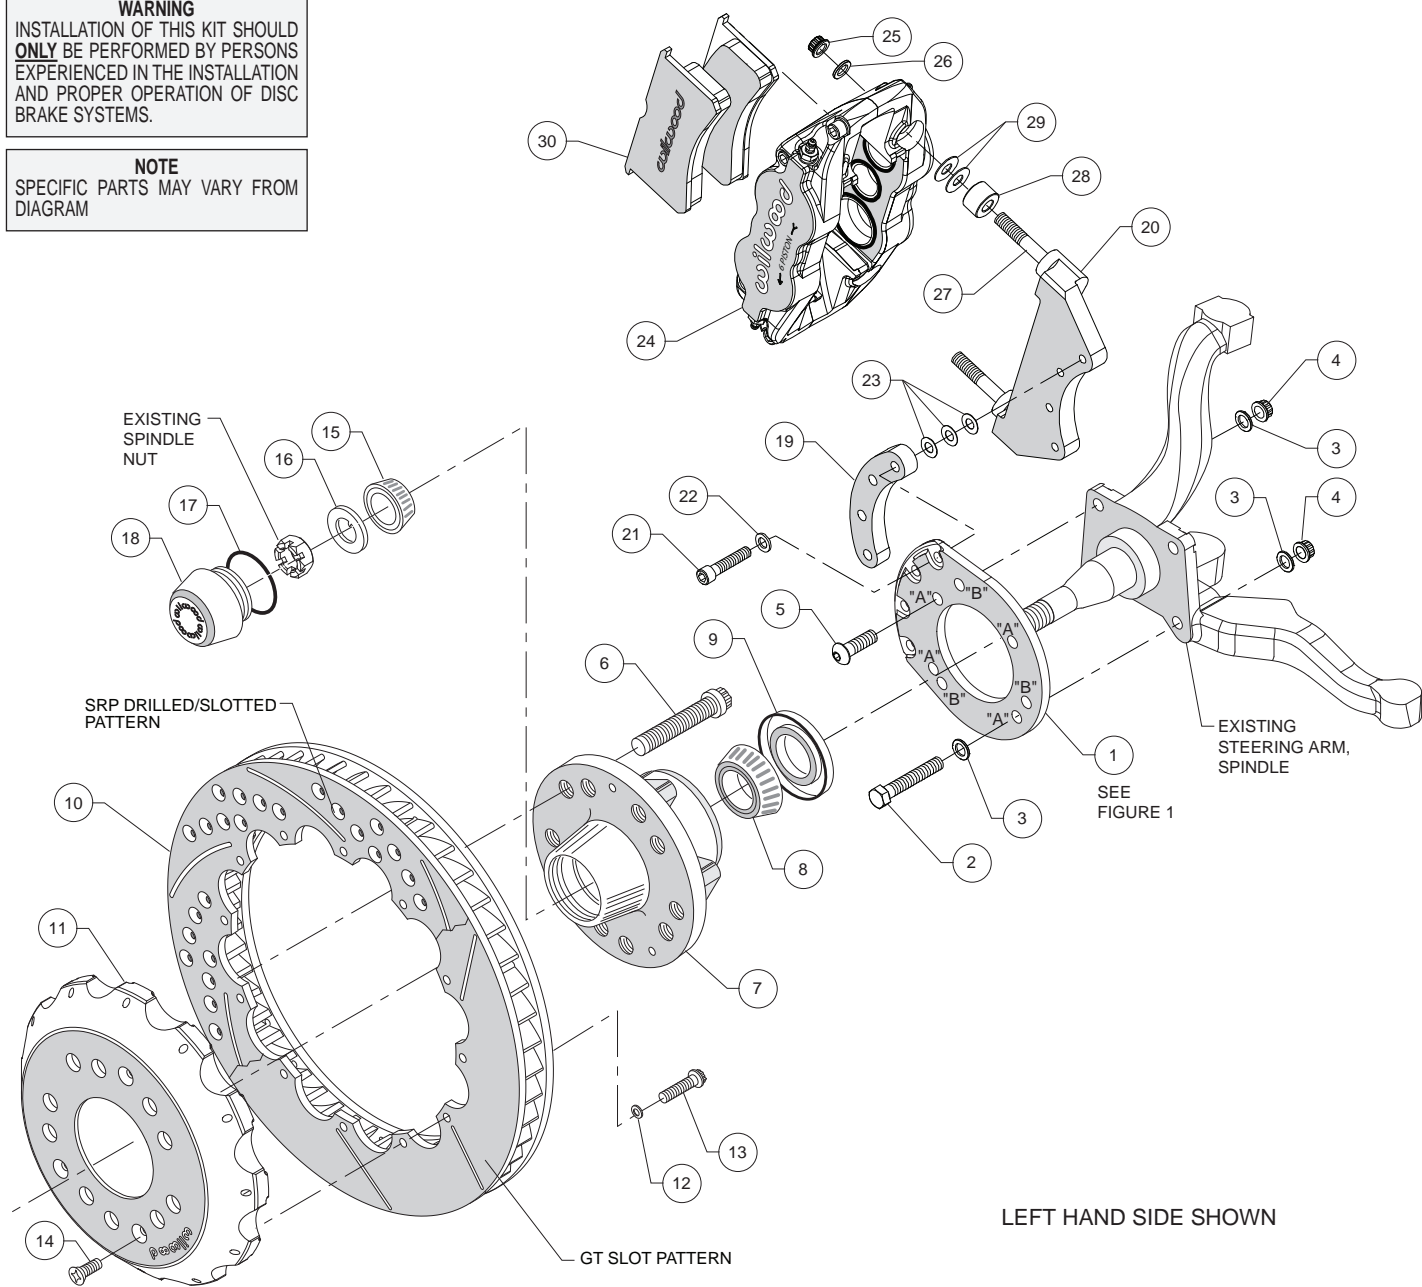

Figure 2. Typical Installation Configuration
Assembly Instructions (numbers in parenthesis refer to the parts list and Figure 2 on the preceding pages):
•Align bracket, using the four "A" holes, to the face of the spindle and attach using bolts (2 and 5), washers (3), and lock nuts (4), as shown in Figure 2 and Photo 1. Temporarily tighten the mounting bolts. **NOTE:** The bracket must fit squarely against the mounting points on the spindle. Inspect for interference from casting irregularities, machining ridges, burrs, etc. Torque lock nuts (4) to 25 ft-lb.
•Install wheel studs (6) into the hub (7), Photo 2. Torque to 77 ft-lb. **NOTE:** There are two five lug patterns in the hub (5 x 4.50 and 5 x 4.75). Ensure the correct hub stud pattern is being used to fit the wheel application.
•Pack the large inner bearing cone (8) with high temperature disc brake bearing grease (available from your local auto parts store) and install into the backside of the hub (7), Photo 3.
•Install the grease seal (9) by pressing into the backside of the hub (7), flush with the end of the hub, Photo 3.
•Pack the small outer bearing cone (15) with high temperature disc brake bearing grease and install into hub (7). Slide the hub assembly onto the spindle. Secure using spindle washer (16) and OEM spindle nut, Photo 4. Adjust bearings per OEM specifications. Install saved OEM nut lock (if any) and a new cotter pin (not included).
•Screw dust cap (18) into hub (7), Photo 5. Friction created by the o-ring (17) on the dust cap keeps it from unscrewing. **NOTE:** The O.D. of the existing OEM spindle washer may be larger than the I.D. of the dust cap not allowing it to seat against the hub face. Therefore, use the spindle washer (16) supplied with the kit instead of the OEM washer.
•Orient the rotor (10) and the hat (11) as shown in Figure 2 and Photo 6. Attach rotor to hat using bolts (13) and washers (12). Using an alternating sequence, apply red Loctite® 271 to the
- Slide the hat/rotor assembly (10 and 11) onto the hub (7) taking care to align the small countersunk holes in the hat with the small threaded holes in the hub (7). **NOTE:** The hat must fit flush against the hub face or excessive rotor run out may result. Install three flat head screws (14) through the small holes in the hat, Photo 5, and torque to 85 **in-lb**.
- Attach the caliper mounting bracket (20) to the spindle bracket (1) using bolts (21), washers (22), and spacer (19) as shown in Figure 2 and Photo 7. Initially place three .015" thick shims (23) on each bolt between the spacer and the caliper bracket. Temporarily tighten the mounting bolts. Later, after the caliper alignment has been checked, the mount bolts will be secured using red *Loctite*® 271.
- **NOTE:** This kit contains distinct right and left hand calipers that must be mounted in a specific direction, as described below. Lubricate the caliper mounting studs (27) with lightweight oil. Initially place two .035" thick shims (29) and spacer (28) on each stud between the caliper and the bracket, as shown in Figure 2 and Photo 8. Mount the caliper (24) onto the bracket (20) using lock nuts (25) and washers (26), Figure 2. Ensure that the caliper is mounted so the largest pistons are at the rotor exit end of the caliper, in relation to the direction of rotor rotation. Temporarily tighten the lock nuts and view the rotor through the top opening of the caliper. The rotor should be centered in the caliper, Photo 9. If not, adjust by adding or subtracting shims (23) between the caliper bracket (20) and the spacer (19). Always use the same amount of shims on each of the four mounting bolts. Once the caliper alignment is correct, remove the bracket mounting bolts one at a time, apply red *Loctite*® 271 to the threads, and torque to 25 ft-lb.